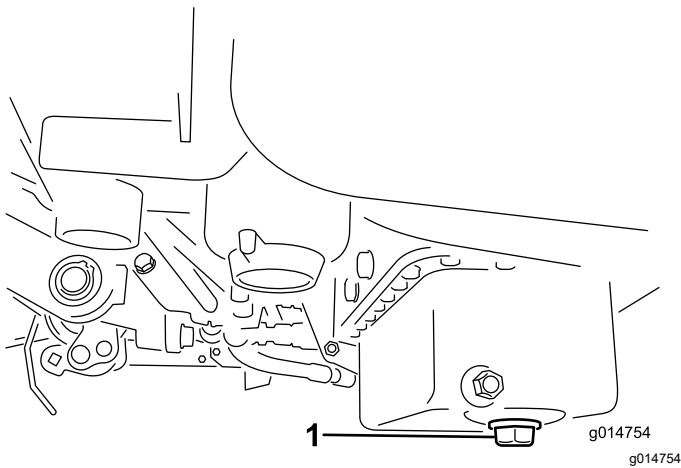

Figure 34
1. Remove the drain plug and let oil flow into a drain pan. When the oil stops, install the drain plug (Figure 34).